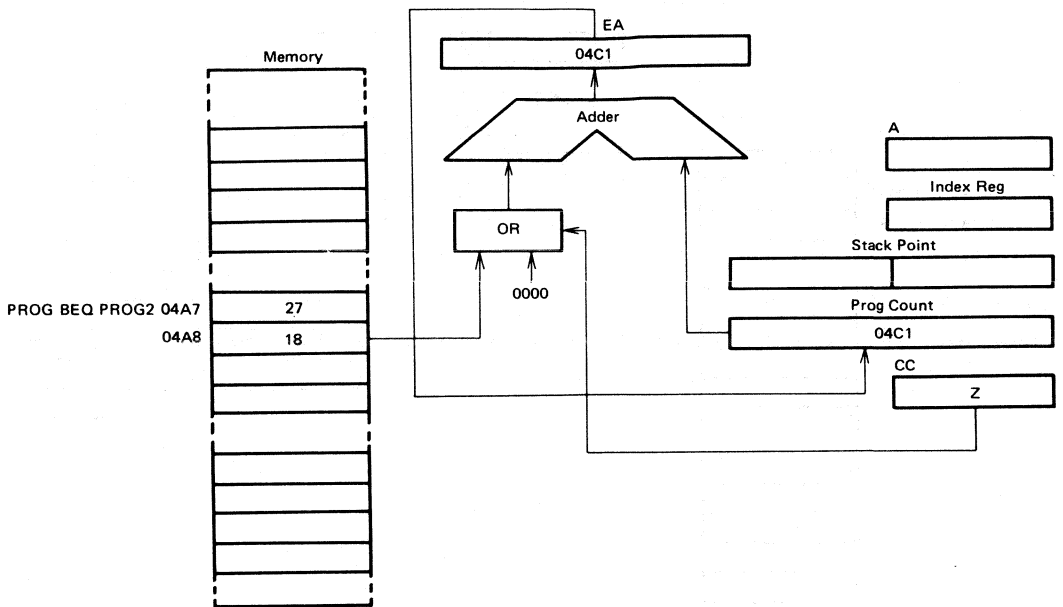

Figure 24 Example of Relative Addressing
See Figure 24. Only Branch instructions are used in relative addressing mode. When a branching takes place, the contents of the byte next to the OP code are added to the program counter.  $EA = (PC) + 2 + Rel.$ , where Rel. indicates signed 8 bits data at the address following the OP code. When no branching takes place, Rel. = 0. When a branching occurs, the program jumps to any byte of +129 to -127 of the current instruction. The length of the Branch instruction is 2 bytes.